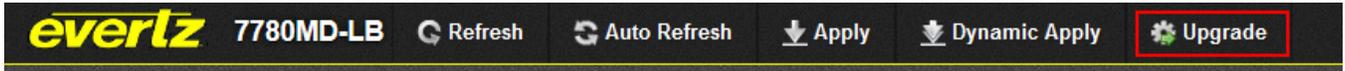

Figure 5-1 : Upgrade Button
1. Click on the Upgrade button, shown in red in Figure 5-1.